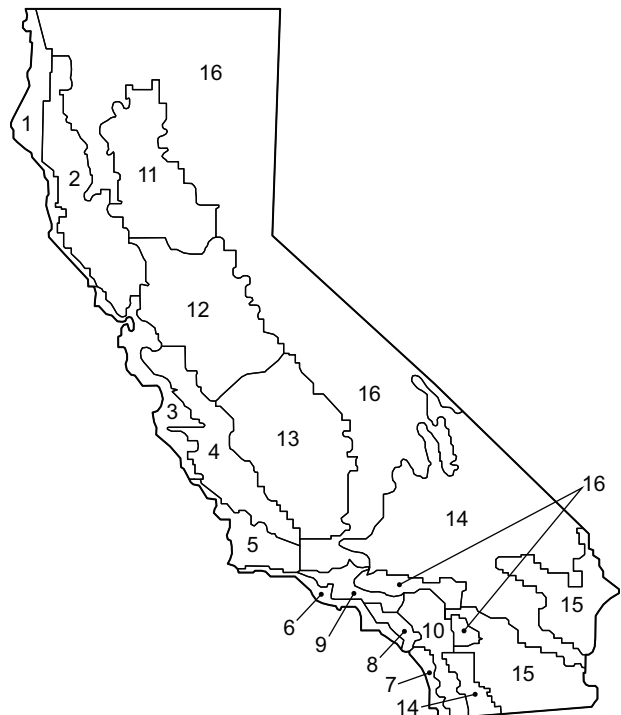

Fig. 93 – California Title 24 Zones
- b. See Fig. 93 for map of California Title 24 zones.